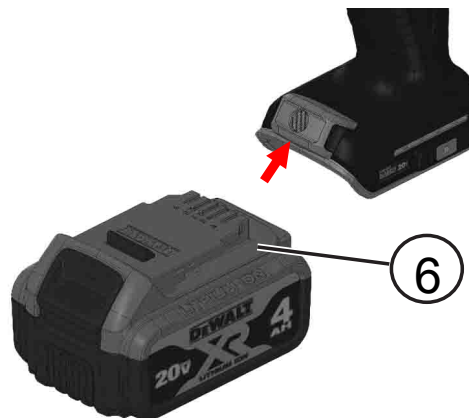

Fig. 10: Battery pack
3. Position the tool. (Fig. 10)
4. Pull and hold the trigger (5) until the rivet is fully set in the application.